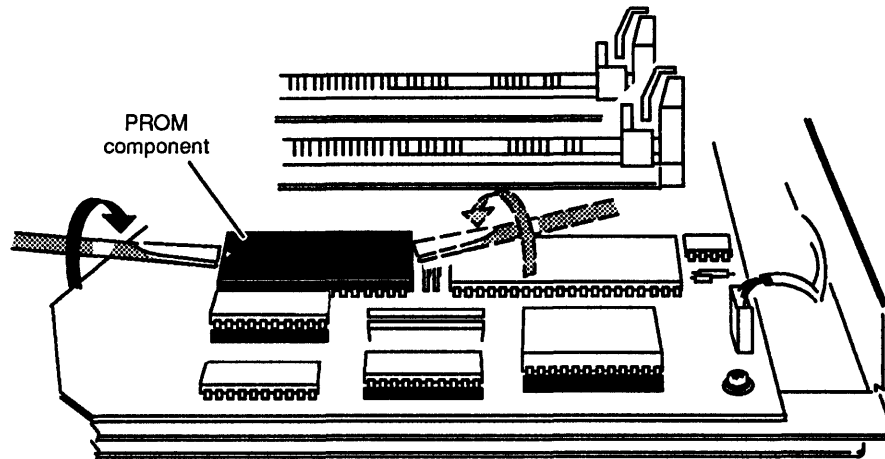

Figure 4-46 Removing the PROM Component
7. Insert a flat-blade screwdriver between the PROM component and its socket. *Gently* twist the screwdriver to pry the PROM component away from its socket, as shown in Figure 4-46. Repeat this procedure on each end of the component until you can remove the PROM component with your fingers.